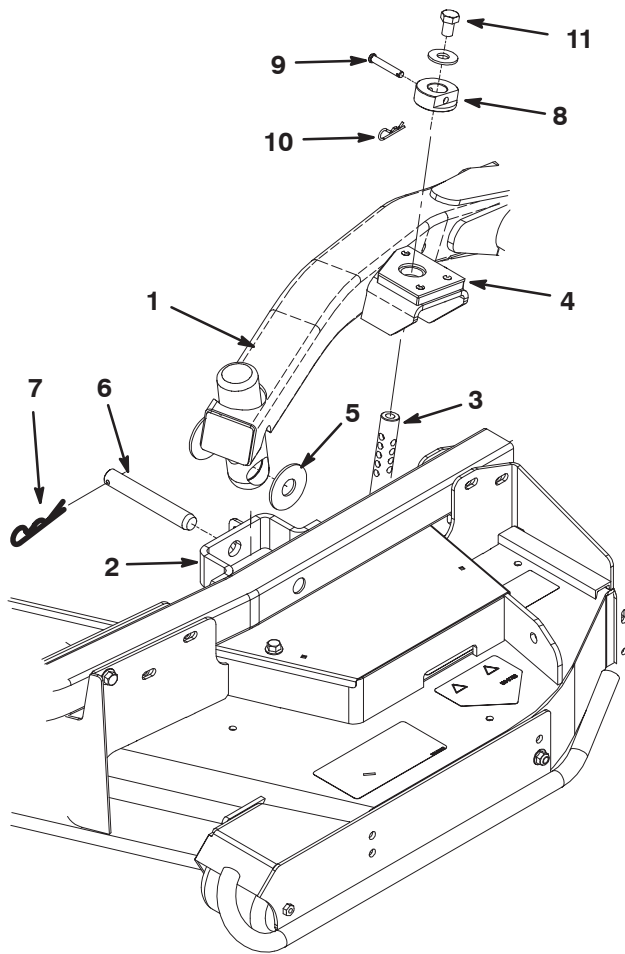

Figure 29
4. Move the lift lever to the Float position. Push a lift arm down until the holes in the lift arm line up with the holes in the castor arm bracket and the height of cut rod can be inserted into the lift arm pads (Fig. 29).
5. Secure the lift arm to the castor arm with (2) thrust washers, a clevis pin and a hair pin cotter. Position the thrust washers between the lift arm and the castor arm bracket (Fig. 29). Insert end of cotter pin into the slot in the castor arm tab to retain cotter pin.
- Install the height of cut collars onto the height of cut rods and secure with the clevis pins and hair pin cotters (Fig. 29). Head of clevis pin to be positioned toward the front of the deck.
- Install a 1/2 x 3/4" capscrew and a washer to top of each height of cut rod (Fig. 29).